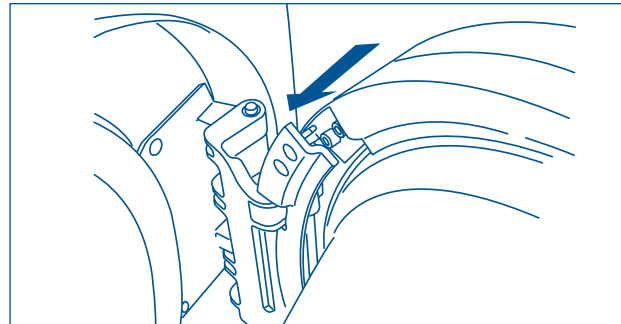

Figure 2-34.
2. Install the door onto the hinge locating pins. (See Figure 2-34)